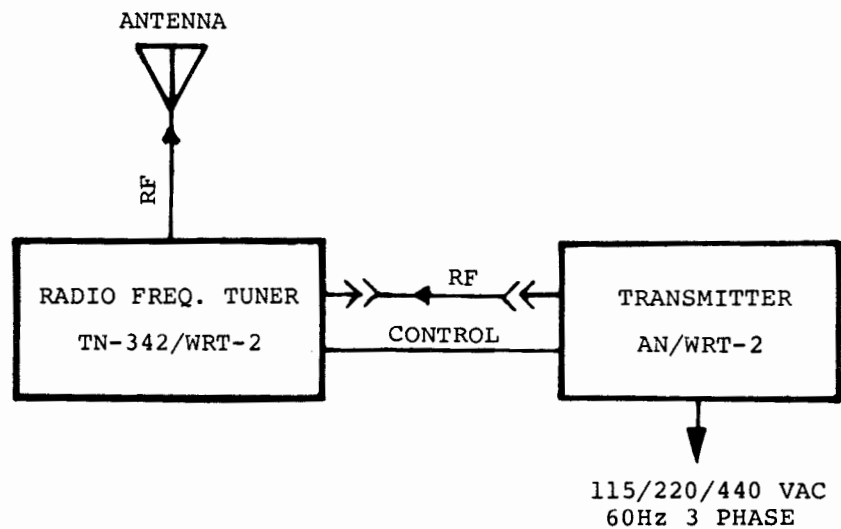

Figure 6-24 Radio Frequency Tuner TN-342/WRT-2
- c. INTERCONNECTION DIAGRAM. - See Figure 6-24.